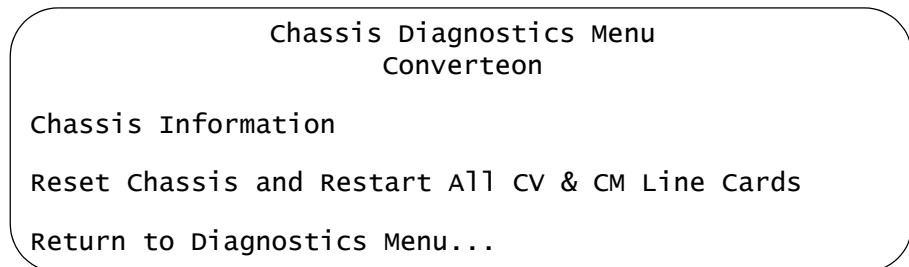

Figure 54. Chassis Diagnostics Menu
2. From the Diagnostics Menu, select **Chassis Diagnostics** to display the menu in Figure 54.